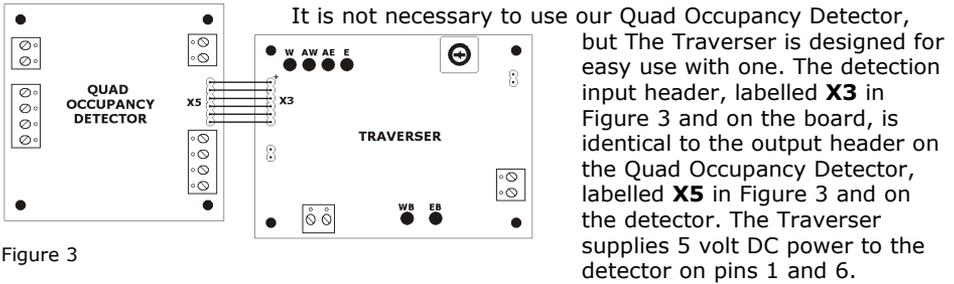

Figure 3
The detection information is on pins 2 to 5, corresponding to blocks 1 to 4 on the detector. The Traverser's block indication LEDs are labelled to show pin 2 (block 1) as **West (W)** in Figure 3, pin 3 (block 2) as **Approach West (AW)** in Figure 3, pin 4 (block 3) as **Approach East (AE)** in Figure 3, and pin 5 (block 4) as **East (E)** in Figure 3).
When the Traverser is powered up and the STOP header is not shorted, operation will begin after a one second pause. The initial direction will be eastbound unless the east end block is occupied, then it will be westbound. When the green direction indicator LED comes on (**WB** or **EB** in Figure 3), track voltage will begin to rise and cause the train to accelerate in the initial direction. Since most motors have a minimum starting